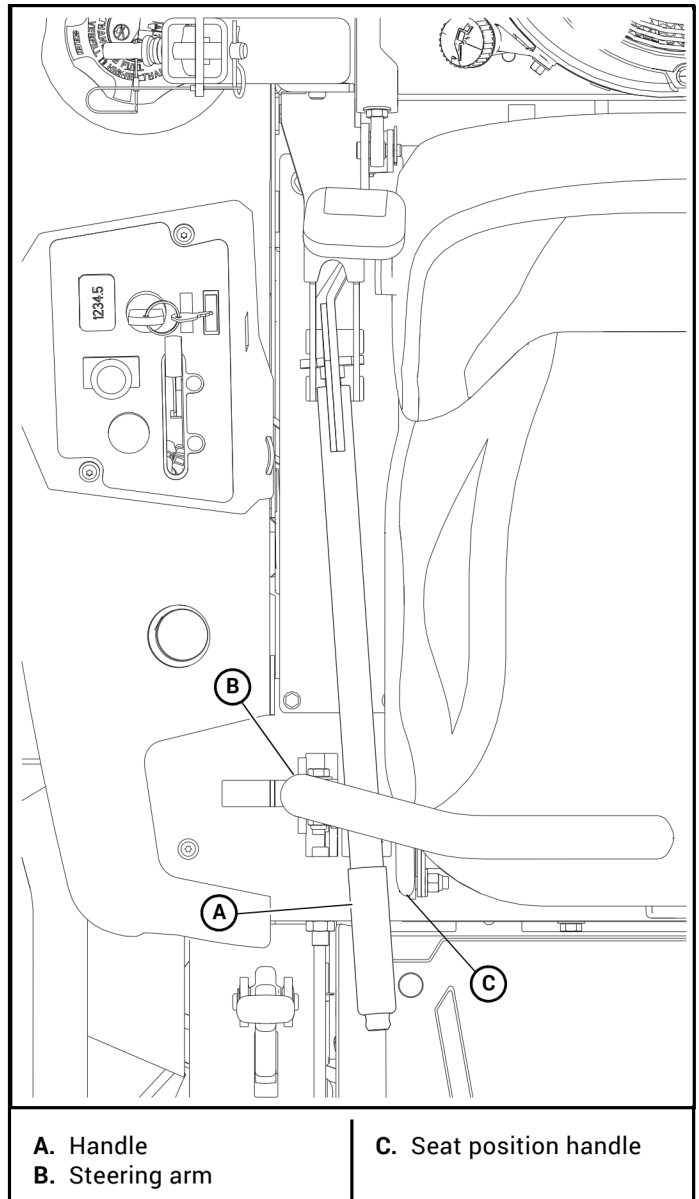
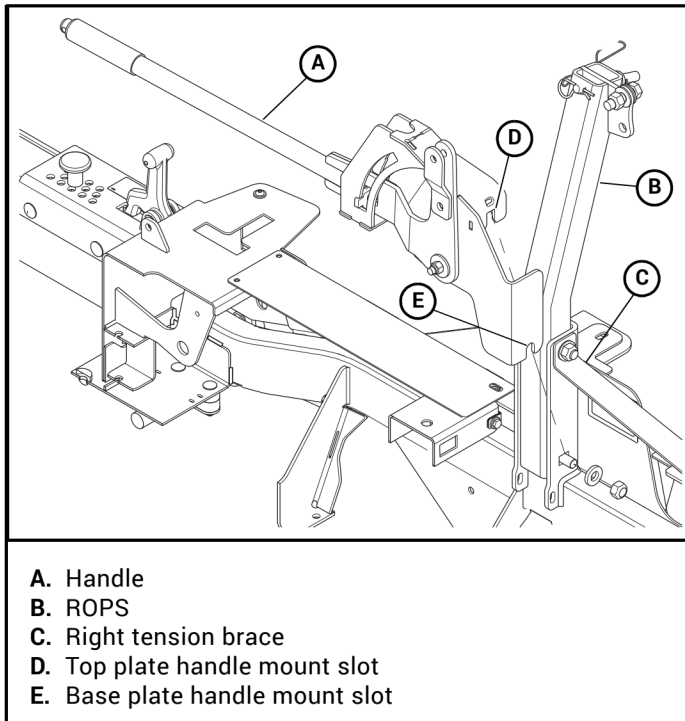

Figure 3-7
Figure 3-5
11. Place the handle assembly on the ROPS pocket as shown. Lightly tighten the hardware on the ROPS. Figure 3-5
13. Inspect the handle position. The handle should be between the steering arm and seat position handle and should not touch on either side. If adjustment is necessary, loosen the ROPS mounting bolts, place the shim provided on the side needing adjusted for proper clearance of the handle. Tighten the ROPS hardware holding the handle in place. Torque to 73 ft-lbs. Figure 3-5, Figure 3-6 & Figure 3-7